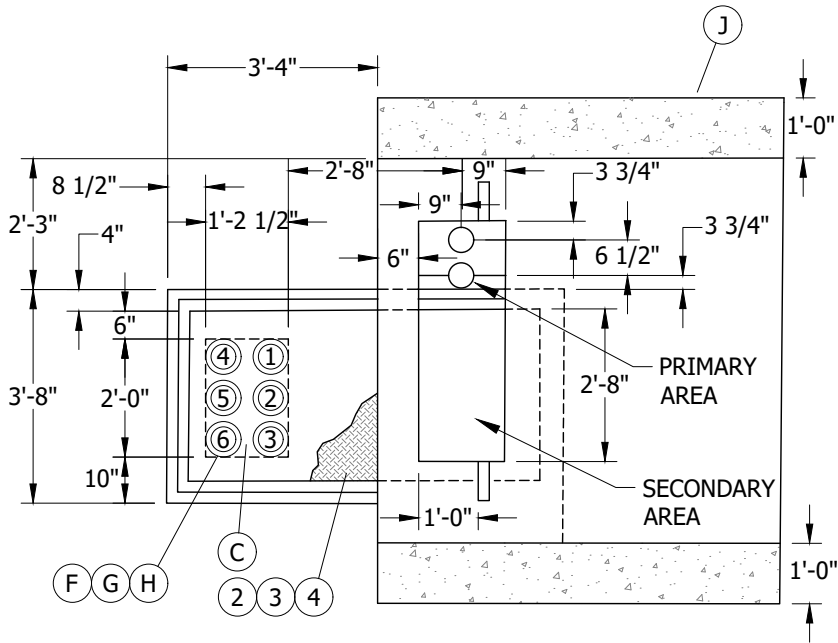

FIGURE 3
- (F) **FOR SECONDARY INSTALLATIONS IN A HANDHOLE**, ANY COMBINATION OF 3-INCH, 4-INCH, OR 5-INCH SECONDARY CONDUITS MAY BE USED, PROVIDED THEY DO NOT EXCEED THE TOTAL OF NINE OR THE MAXIMUM OF EACH SIZE CONDUIT (SEE FIGURES 3 AND 4). TWO EXTRA 1-INCH OR TWO EXTRA 2-INCH CONDUITS MAY BE ADDED TO SERVE STREET LIGHT, RECREATION BUILDINGS, ETC.
- (G) WHEN THE NUMBER OF REQUIRED CONDUITS IS LESS THAN THE TOTAL SHOWN ON THE SKETCHES, INSTALL THE CONDUITS IN NUMBERED SEQUENCE AS SHOWN.
- (H) SEE DETAIL 1 FOR ADDITIONAL SECONDARY CONDUIT SIZES.
- (J) IN SOFT SOILS, A CONCRETE BACKFILL (1-SACK MIX) IS REQUIRED UNDER THE PAD, 12 INCHES BEYOND THE SIDE EDGES OF PAD AND 12 INCHES DEEP.
- (K) PAD MUST HAVE A SUBSTRUCTURE: 3311-S MINIMUM.